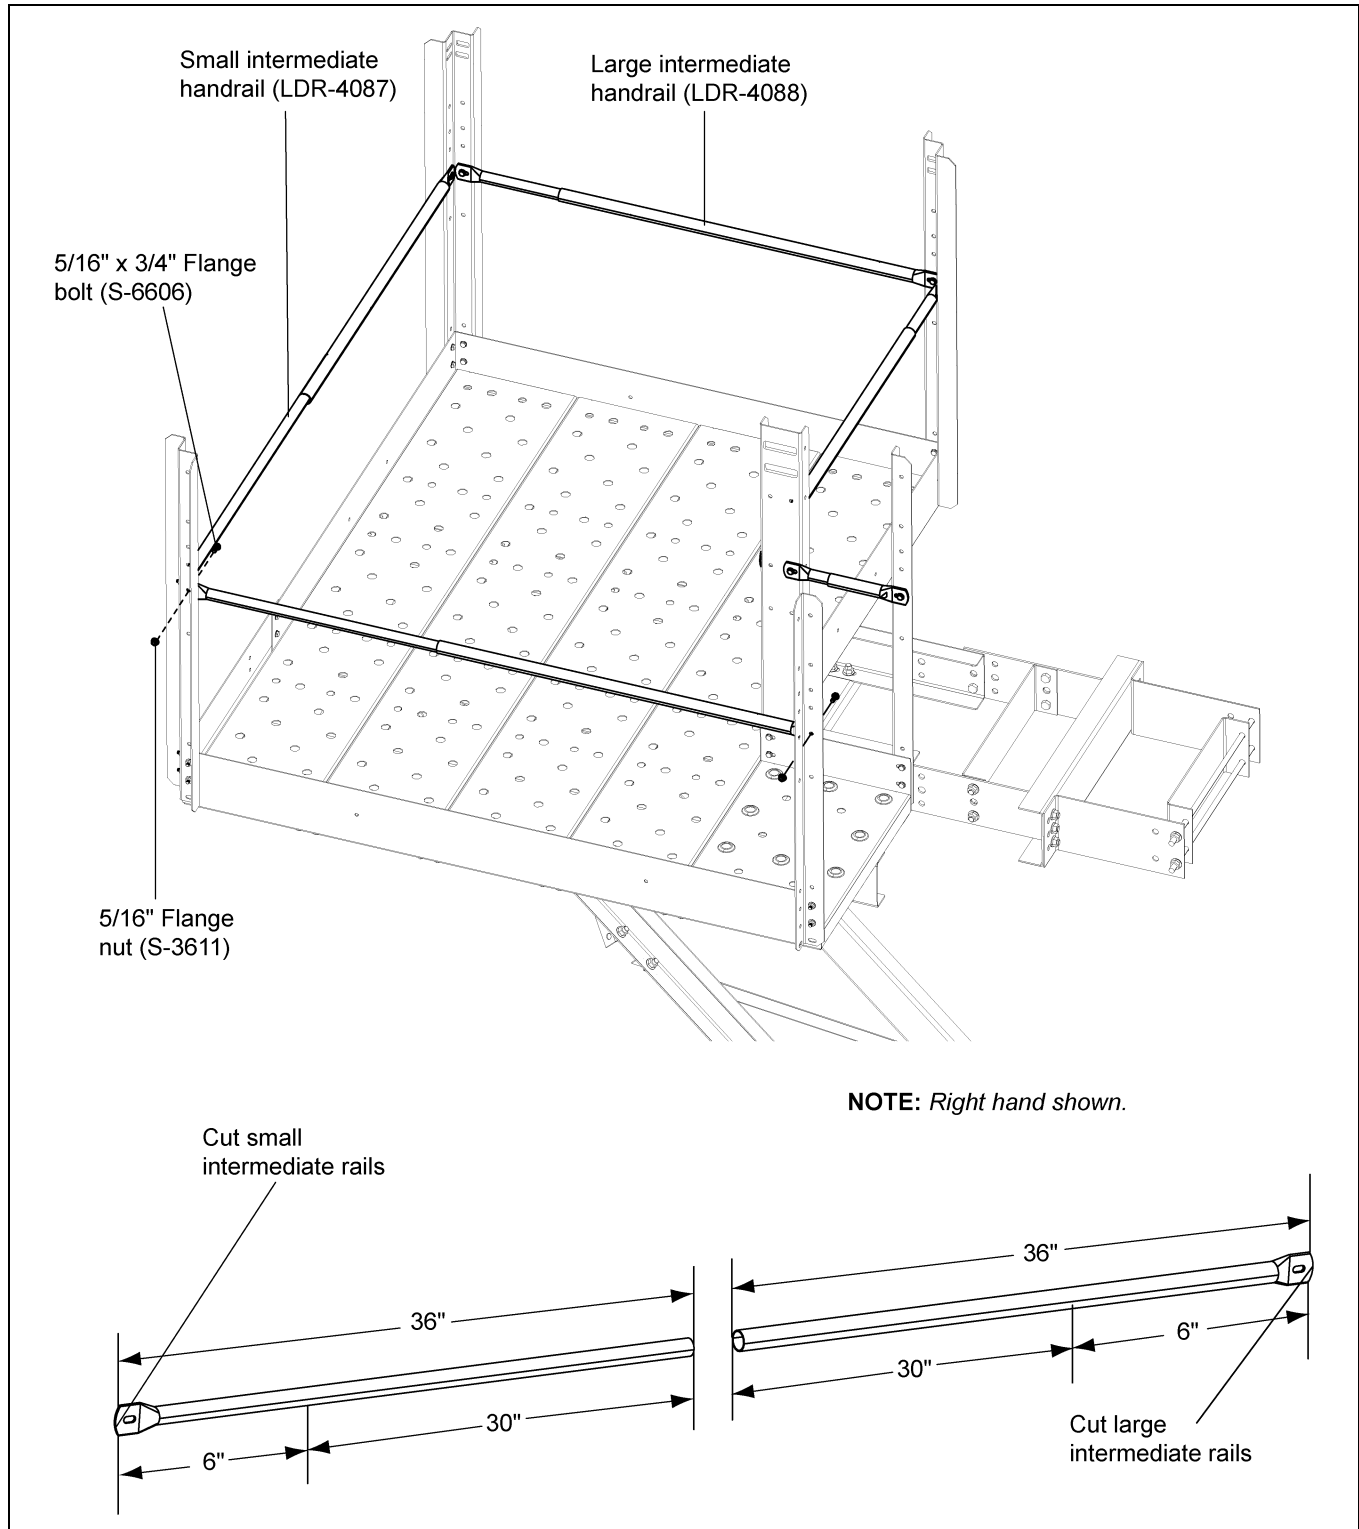

Figure 10M
1. Insert small intermediate handrail into the large intermediate handrails to create telescoping rails. Cut 30" off one small intermediate and one large intermediate rail to fit at entrance. Adjust all rails to the proper length and install to the posts using the 5th hole down from the top. Fasten in place using two (2) 5/16" x 3/4" flange bolts and nuts per each telescoping tube. (See Figure 10M.)